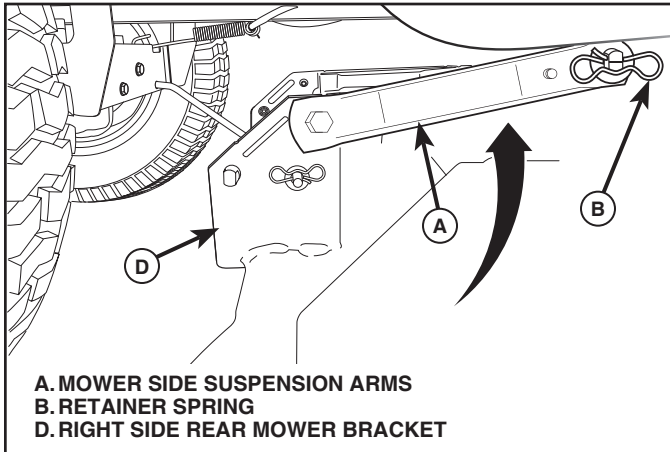

Fig. 10
## 6. ATTACH MOWER SIDE SUSPENSION ARMS (A) TO CHASSIS (See Fig. 10)
- Position front hole in side suspension arm (A) over pin on outside of tractor chassis and secure with large washer and large retainer spring (B).